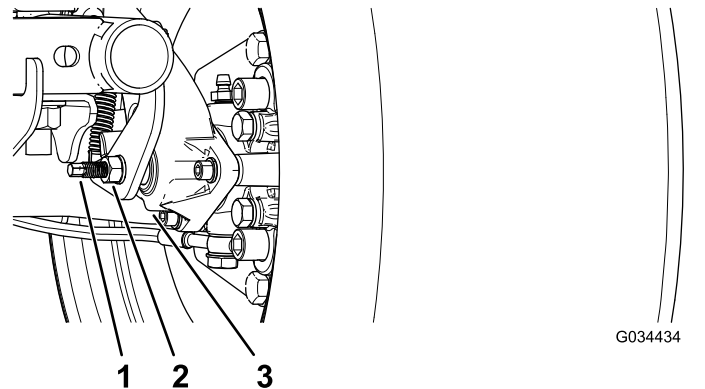

Figure 54
3. Using 2 wrenches, hold the adjusting post on the caliper in place with 1 wrench, and loosen the jam nut 1/4 turn with the other wrench (Figure 54).
4. While holding the adjusting post and the jam nut in place, turn the adjusting post in to tighten (Figure 54).
5. While holding the adjusting post and the jam nut in place, back off 1/4 turn (Figure 54).
6. While holding the adjusting post and the jam nut in place, tighten the jam nut (Figure 54).